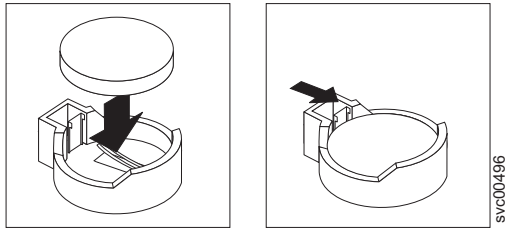

Figure 141. Installing the SAN Volume Controller 2145-8A4 CMOS battery
- c. Press the battery down into the socket, as shown in Figure 141 on page 149, until it clicks into place. Make sure that the battery clip holds the battery securely.